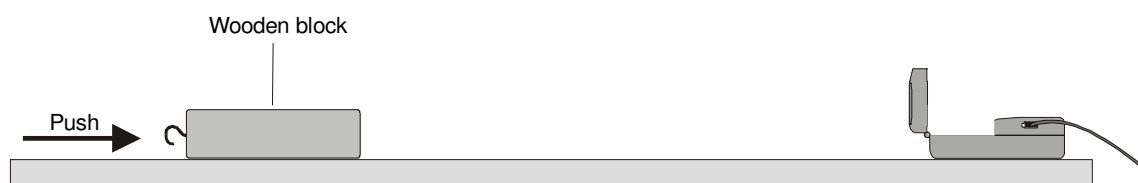

Figure 2
2. Place the Motion Detector on the lab table 1 to 2 m from a block of wood, as shown in Figure 2. Position the Motion Detector so that it will detect the motion of the block as it slides toward the detector.